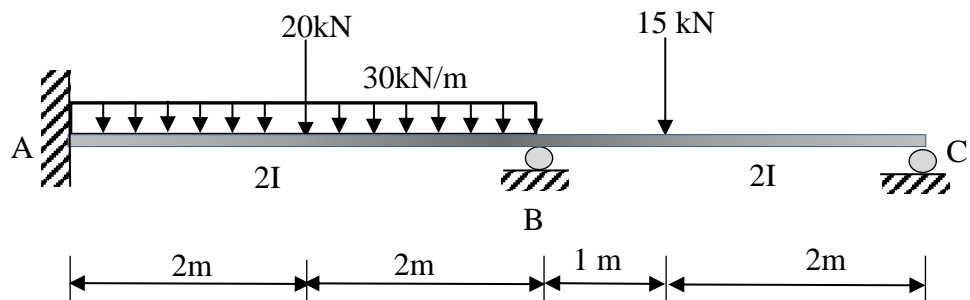

Figure 1(a)/ Rajah 1(a)
- (a) **Figure 1(a)** shows a continuous beam with two spans which are supported at A, B and C. By using Slope Deflection Method, calculate the final moment at support A, B and C.